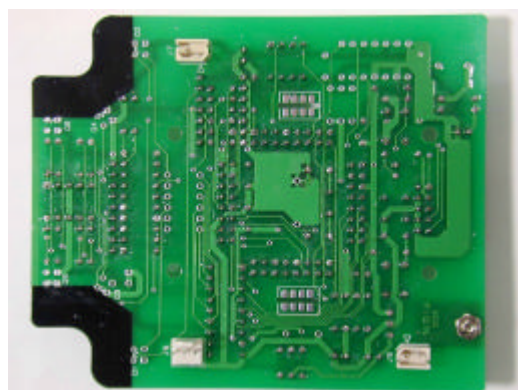
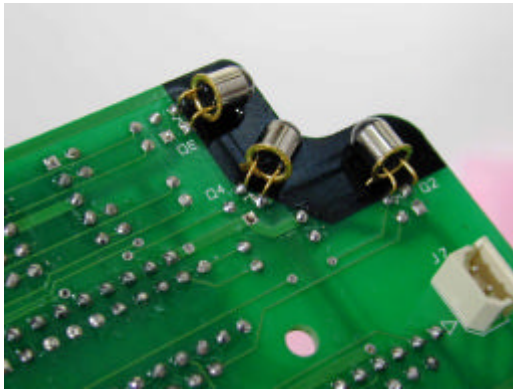
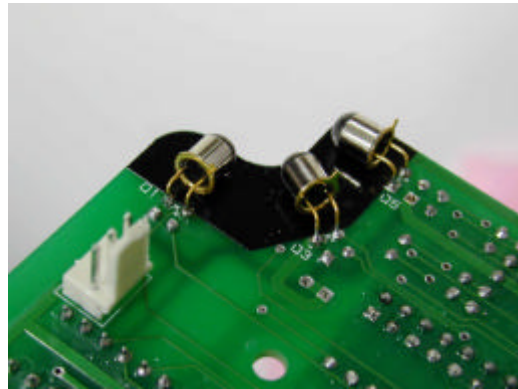

Fig 2.14
Fig 2.15
Fig 2.16
(1) Bend pins of the LM2940 to 90°. Put in position U5 and insert pins. Ensure there is no space between heat sink and the PCB.
(2) Use the 3×8 bolt and nut to secure the LM2940. Solder the pins to the PCB.
(3) Insert the 220uF electrical condensers in positions C15 and C16. Put negative leg in the black side of the circle. Solder.
(4) Insert the push switch in position SW4. Solder.
(5) Insert 5045(3Pin) connector in position J9. (Refer to Fig. 2.14)
(25) Insert the FND(8-segment) in location FND1. Solder.
(26) Insert the  $330\Omega$  resistors in positions R3, R5, R12~R19. Insert the  $10\Omega$  resistors in positions R6~R11. Solder.
(27) Insert the 220uF/10V electrical condensers in positions C1, C11. Solder.
(28) Insert the 8pin sockets in positions U1, U3. Solder.
(29) Insert the 18pin socket in position U4. Solder.
(30) Insert 5064(2Pin) connectors in positions J5, J7. Note: Insert from bottom of PCB. Place according to illustration on back of PCB. (Refer to Fig. 2.14)
(31) Insert the six infrared emitting diodes(CL-1L5 has a clear bulb) in positions D1 through D6. Ensure the longer leg is inserted in the hole with the square pad(anode). Solder.
(32) Insert the six phototransistors(ST-1KLA has a clear bulb with a metal casing) in positions Q1 through Q6 from the bottom of the PCB. ( Refer to Fig 2.15(Q2 · Q4 · Q6), Fig 2.16(Q1 · Q3 · Q5). ) Ensure the leg closer to the node is inserted in the hole with the round pad. Solder.